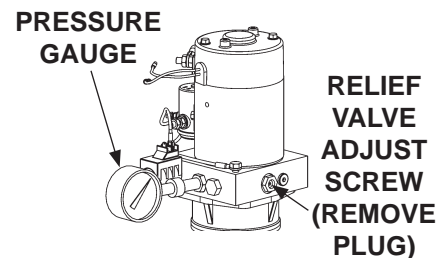

FIG. 48-2
9. With platform on the ground, remove the pressure hose and fitting from the pump and replace it with a 0-4000 PSI pressure gauge. Hold the control switch in the "RAISE" position. Adjust the relief valve on the side of the pump until the gauge shows 3250 PSI (**FIG. 48-2**). Remove gauge and reinstall pressure hose.